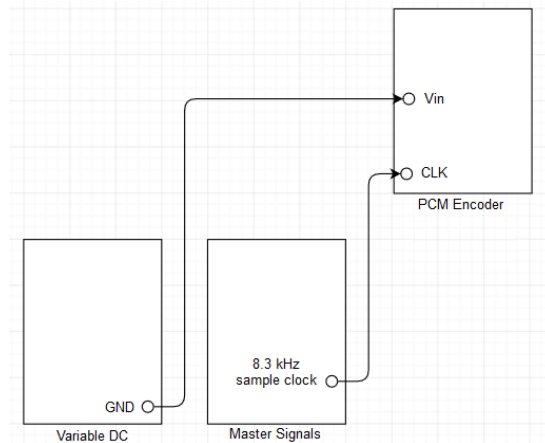

Figure A.5.3: Setup for PCM.
- i. Make the modulator setup as shown in the Figure A.5.3.